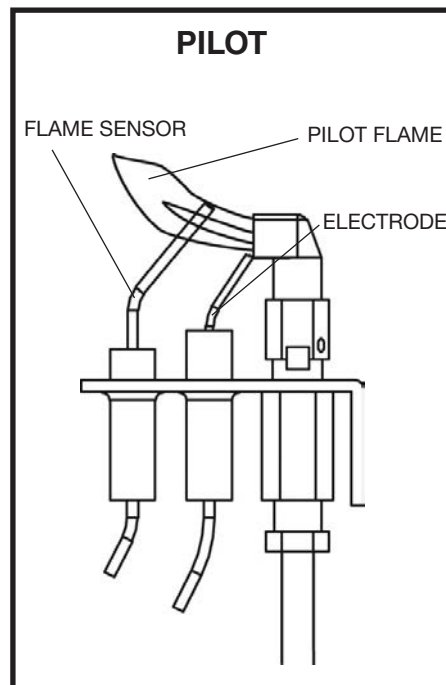

Figure 105: SIT pilot assembly.
- Check the pilot system for proper flame size and operation. Clean pilot free of soot, dust or any other deposits (Figure 105 and Figure 106). Have a qualified service person adjust the pilot flame.